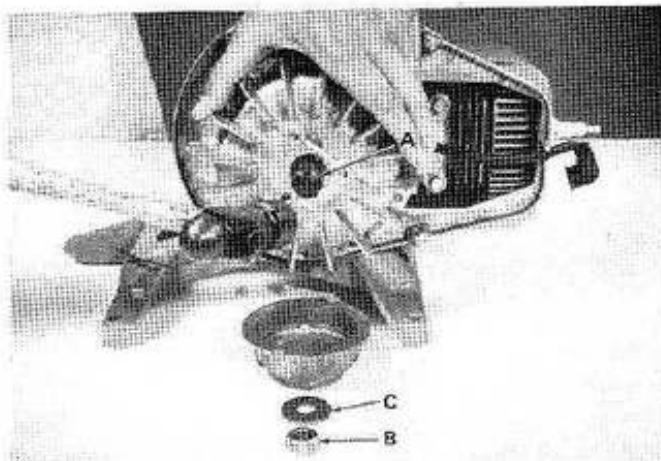

Figure 65. Flywheel Removal.
- d. Strike the flywheel knock off nut (A) sharply with a hammer. (See Figure 65.)